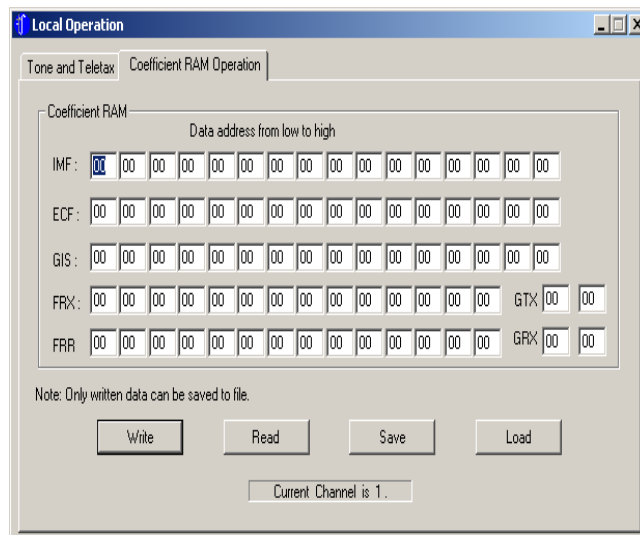

FIGURE 8. COEFFICIENT RAM OPERATION SCREEN
When the COF RAM button is selected from the GCI Operation General Interface screen, the COF RAM Operation screen will appear (Figure 8). From this screen, the user can load the coefficients for the current channel.
4. From GCI Software screen, Select COF RAM. The Coefficient Ram Operation screen will appear (Figure 8).